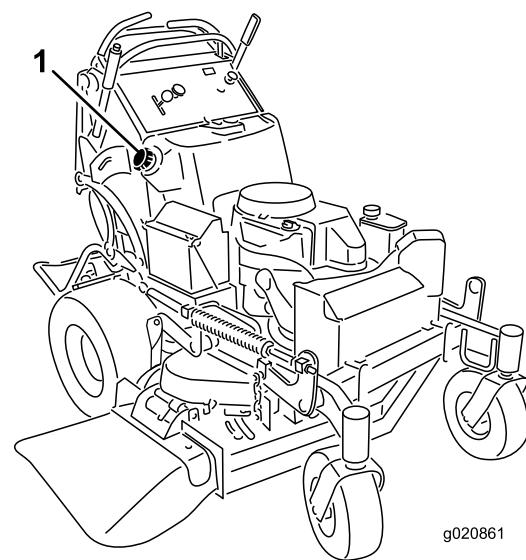

Figure 48
5. Using the siphon pump, drain the fuel into a clean gas can (Figure 48).